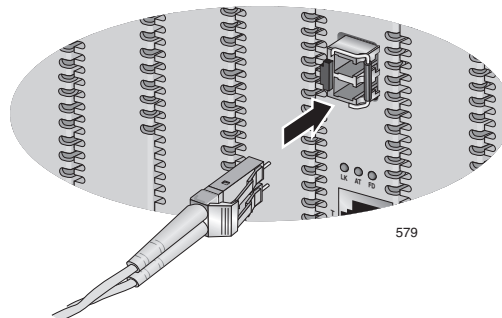

Figure 35. Connecting Fiber Optic Cables to the SFP Transceiver
3. Connect the fiber optic cable to the SFP transceiver, as shown in Figure 35.